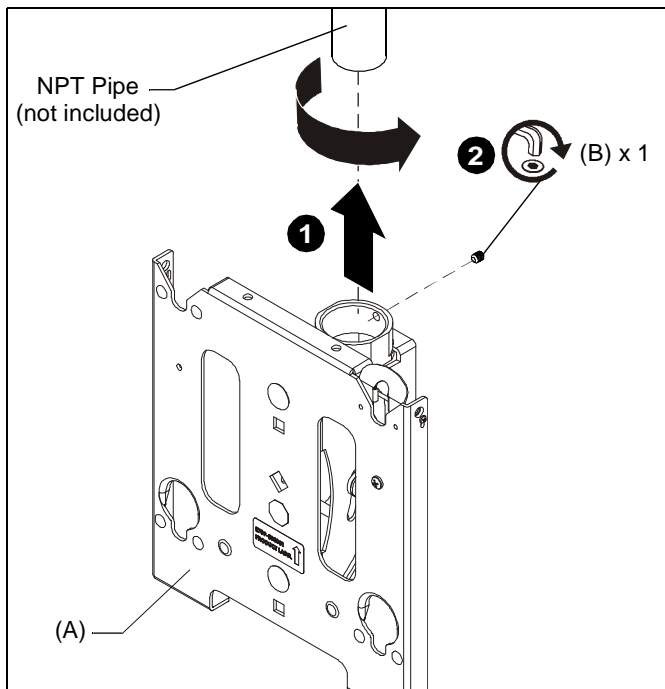

Figure 1
1. Thread the MCS mount (A) onto the existing 1-1/2" NPT or NPSM pipe (not included) until tight, with a minimum of four threads engaged. (See Figure 1)
2. Install and tighten the 5/16-18 x 3/8" set screw (B). (See Figure 1)